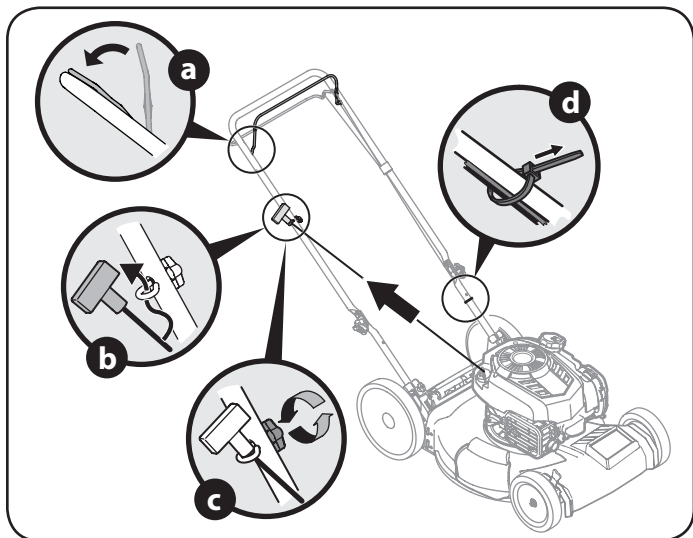

Figure 6
4. The rope guide is attached to the right side of the upper handle. Loosen the wing knob which secures the rope guide. Refer to Figure 6.
- b. Slowly pull starter rope handle from engine and slip starter rope into the rope guide. See Figure 6.